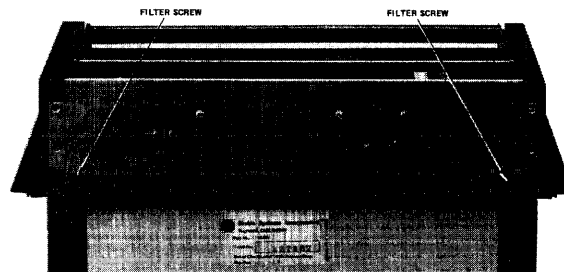

Figure 5-2 AIR FILTER REPLACEMENT
1. See Figure 5-2.
Air Filtering Components (Figure 5-2) Includes the filter, impeller (mounted on spindle), and scroll case through which the air travels from the filter to the cartridge.